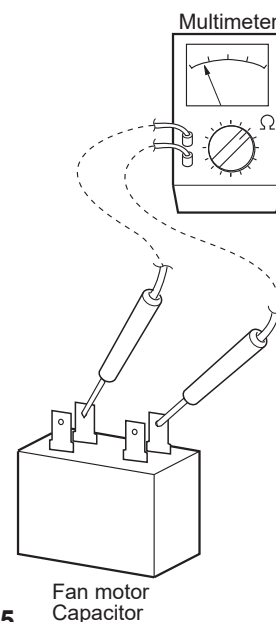

Fig. 45
⑤ Fan motor capacitor Both in indoor and outdoor unit
- Remove the lead wires from the capacitor terminals, and then place a probe on the capacitor terminals as shown in **Fig. 45**. Observe the deflection of the pointer, setting the resistance measuring range of the multimeter to the maximum value.